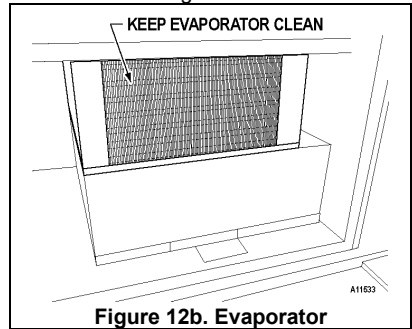

Figure 12b. Evaporator
- Is the evaporator fan working? To check if the fan is running take a small piece of paper in front of the evaporator coil and see if the evaporator fan will draw the paper. See Figure 12b on page 37.